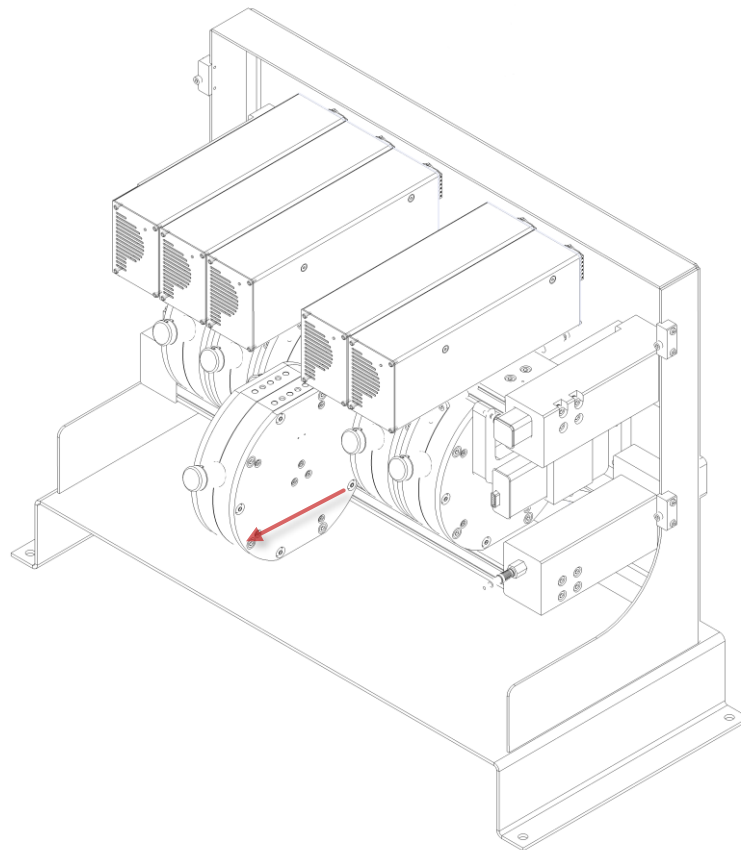

Figure 78 Gently slide out the broken reactor
14. Carefully slide out the reactor, see Figure 78.